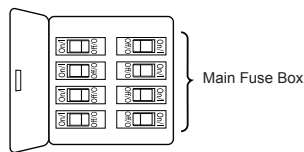
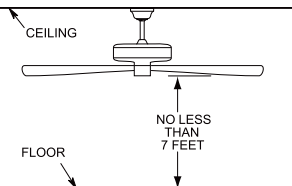
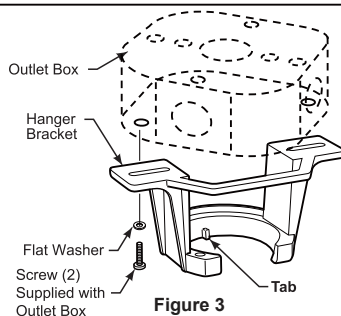

Figure 1
Figure 2
Figure 3
Your new ceiling fan will require a grounded electrical supply line of 120 volts AC, 60 HZ, 15 Amp Circuit. Electrical code requires use of a fan-rated outlet box to support the extra weight and motion associated with a ceiling fan. A fan-rated box will be labeled as such and typically supports up to a 70lb ceiling fan. Fan-Rated Outlet Boxes vary in ratings and design. Ensure the ratings of your ceiling fan outlet box meet the requirements for the ceiling fan being installed. Figure 1, Figure 2 and Figure 3 depicts different structural configurations that may be used for mounting the outlet box.
Low profile box (Figure 1)
Deep box (Figure 2)
Deep box with brace (Figure 3)
1. Remove the hanger ball portion from the downrod/hanger ball assembly by loosening the set screw in the hanger ball until the ball falls freely down the downrod. Remove the pin from the downrod, then remove the hanger ball. Retain the pin and hanger ball for reinstallation in Step 7. (Figure 1)
2. Remove the hairpin clip and clevis pin from the bottom of the downrod. Retain the pin and clip for reinstallation in Step 5. (Figure 2)
3. Remove the three stabilizer tabs and plastic bag from the motor. Discard the stabilizer tabs. (Figure 3)
To avoid possible fire or shock, be sure electricity is turned off at the main fuse box before hanging. (Figure 1)
The fan must be hung with at least 7' of clearance from floor to ceiling fan. (Figure 2)
1. Securely attach the hanger bracket to the outlet box (not included) using the outlet box screws and washers supplied with the outlet box. (Figure 3)
1. To set the code on receiver unit, slide dip switches to the same positions as set on the remote control. (Figure 1)
To avoid possible electrical shock, be sure electricity is turned off at the main fuse box before wiring. (Figure 2)
2. Slide the receiver into the hanger bracket before wiring as shown in figure 3.
- ☐ 1. Assemble canopy by rotating key slot in canopy over shoulder screw in hanger bracket, taking care not to pinch the wires. Tighten shoulder screw. Fully assemble and tighten second shoulder screw that was previously removed. (Figure 1)
- ☐ 2. Securely attach and tighten the canopy screw cover over the shoulder screws in the hanger bracket utilizing the key slot twist-lock feature. (Figure 2)
- ☐ 1. Carefully slide the blade through the slot as shown. Securely fasten the seven blades with serrated head screws with flat washers. Do not over-tighten. (Figure 1)
- ☐ 1. Remove one of the three screws in the support bracket at the bottom of the motor assembly. Retain the screw for later and slightly loosen the remaining two screws. (Figure 1)
- ☐ 2. Assemble the light kit to the support bracket using the two key slots in the light kit. Replace the previously removed screw and securely tighten all three screws. (Figure 2)
- ☐ 3. Remove one of the three screws in the light kit. Retain the screw for later and slightly loosen the remaining two screws. (Figure 3)
- 1. IMPORTANT: Using a full range dimmer switch (not included) to control fan speed will damage the fan. To reduce the risk of fire or electrical shock, do not use a full range dimmer switch to control the fan speed. (Figure 1)
- 2. Restore electrical power to the outlet box by turning the electricity on at the main fuse box. (Figure 2)
- 3. Remove the battery cover from remote control by screwdriver and retain the screw for later. (Figure 3)